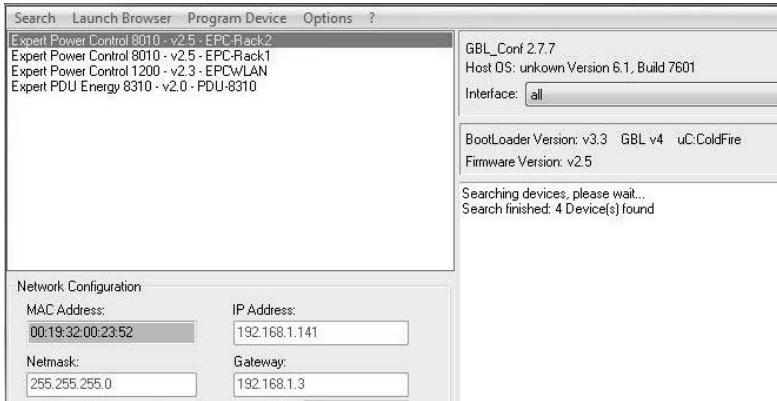

Fig. 2. All found devices in the configurations program GBL_Conf.
- ① Open GBL_Conf. All found devices in the network will now appear in the left window as shown in Fig. 2.
- ② Double-click on the device name. You will be forwarded automatically to the device's web interface in your web browser.